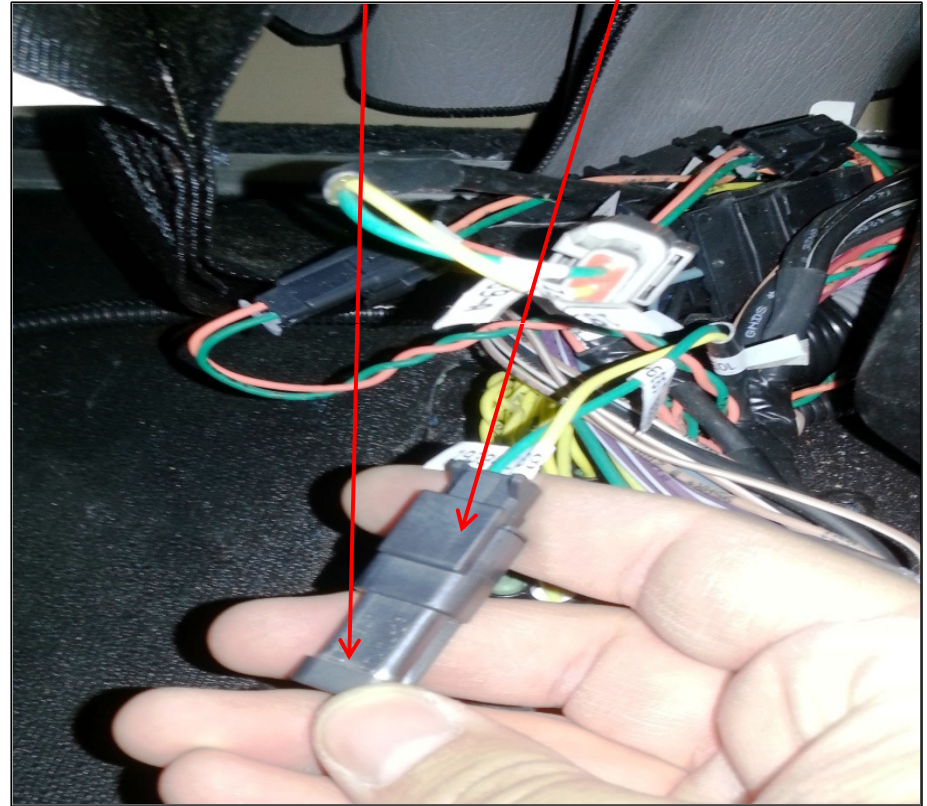

Figure 2
5. Route J1939 wires to “Terminating Resistor” which is located drivers side at “B” pillar shown in “Figure 2”.